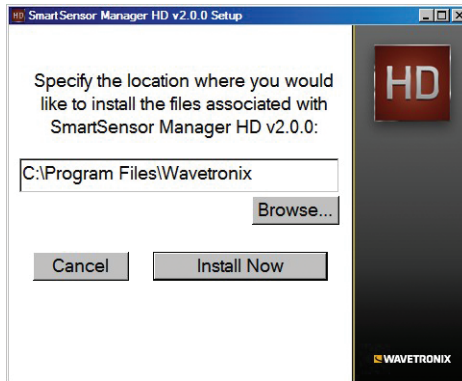

Figure 3.2 – Location to Be Installed
- 7 Select an installation location. The default location provided is normally “C:\Program Files\Wavetronix.” Click **Browse** to choose another location (see Figure 3.2).